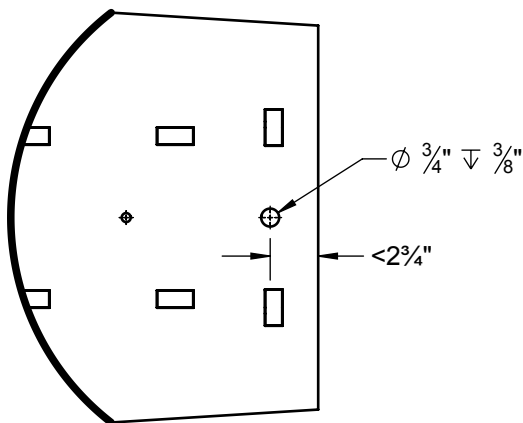
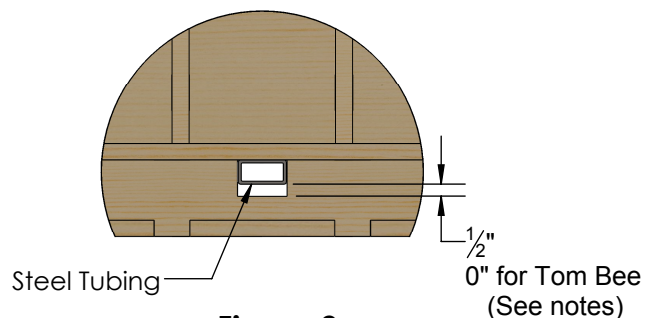

Figure 1
Figure 2
- **Optional:** If the position of the coupler is less than $2\frac{3}{4}$ " from the end of the tubing, mark hole locations on car then remove tubing and counterbore to provide relief for bolt head (Figure 1). There is $\frac{1}{2}$ " of vertical clearance between the cutouts and tubing (Figure 2), this allows the frame to be lowered in order to clear the bolt head for the coupler. To assemble, slide the frame past the coupler hole, install the coupler with bolt and nut, repeat on other end, center the frame, push frame against bottom of car to seat coupler bolts in counterbores. If using optional coupler method, drill another $\frac{3}{8}$ " hole through the frame 4" from the ends to mount the frame rigidly to the car.